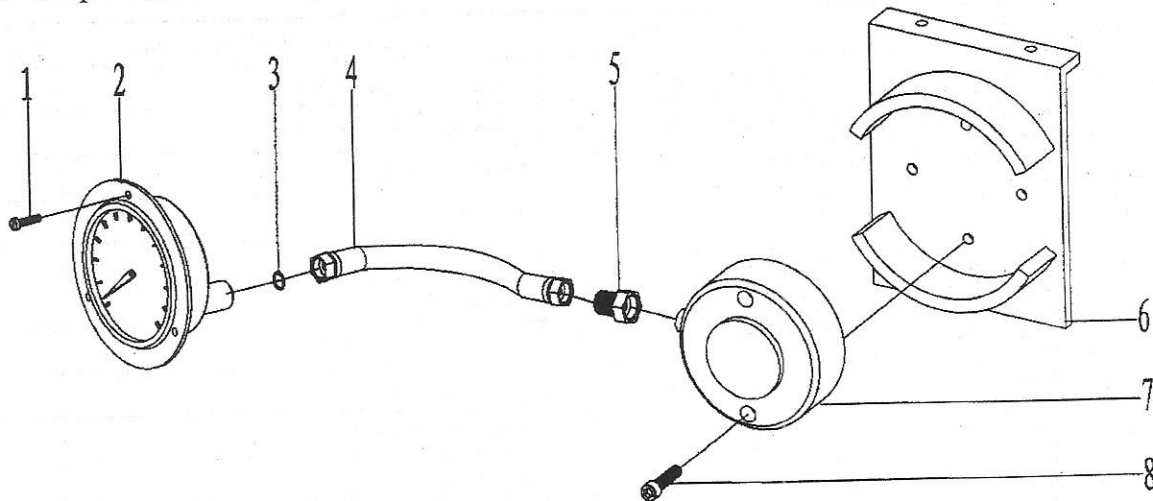

Fig .28
25. Torque testing assembly (Fig28, Table25)